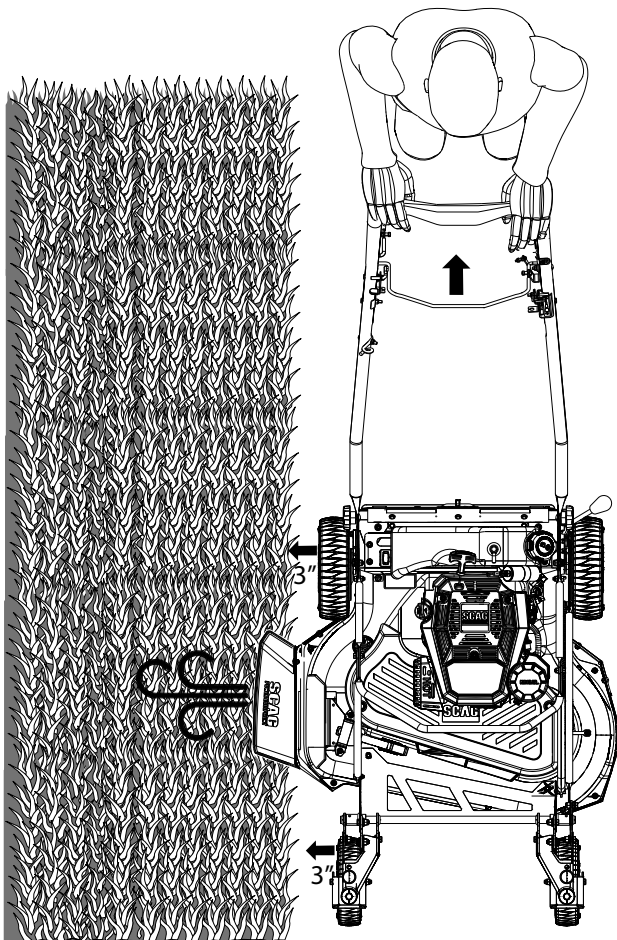

Figure 2-1. Blade Stop
5. Position the machine so the discharge chute is pointing towards the patch of grass and approximately 3" away. See Figure 2-1.